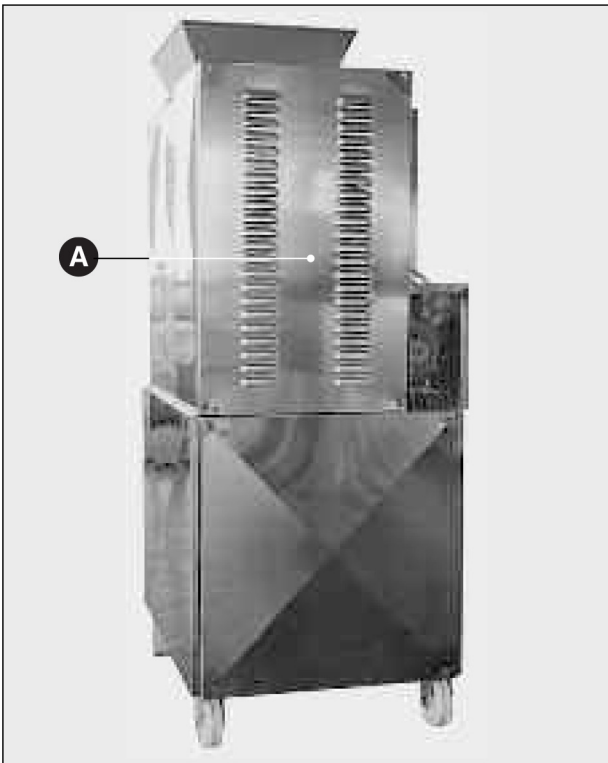

Fig. 33
- For the inside parts of the machine, take off the bigger back panel (Fig.33 A) and carry out the cleaning of the machine, bearing in mind the grease and dust, that are sometimes present; when finished, replace panel.
The machine parts requiring maintenance are the following: the Archimedean screw reducer, the upright push-bearing support, the movable mixer support, the sliding chains and belts. Disassemble the bigger back panel (Fig.33 A) upright.